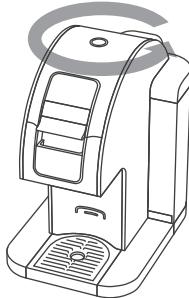

Fig. 1
1. Unwrap the electrical cord and remove all pieces of adhesive tapes. Then view the rear of the product. (Fig. 1)